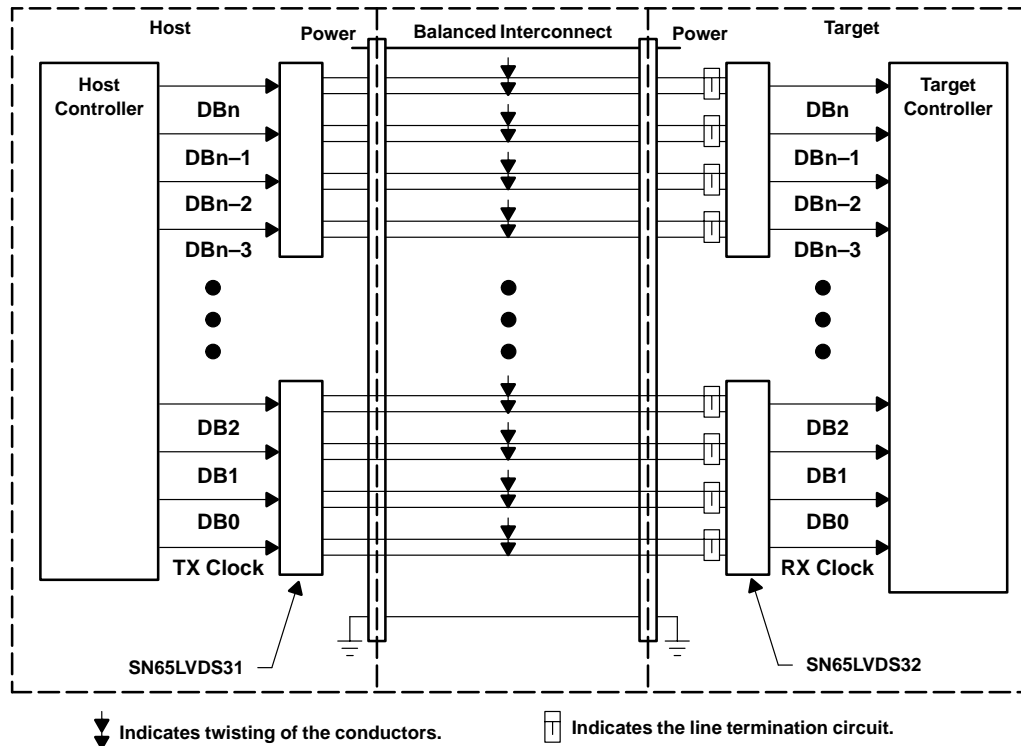

Figure 1. Typical Connection with LVDS Transmitters and Receivers
Figure 1 shows a typical connection with LVDS transmitters and receivers.
- The system diagram in Figure 1 shows locations of the terminations.